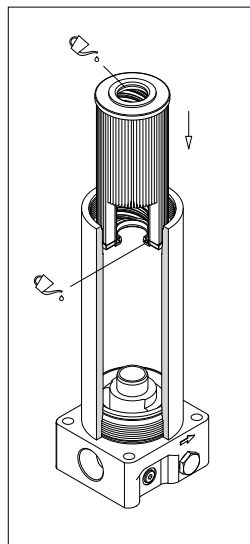

fig. 8
- (Fig. 8) Lubricate with the operating fluid the filter element seals, then fit the filter element on the tap.